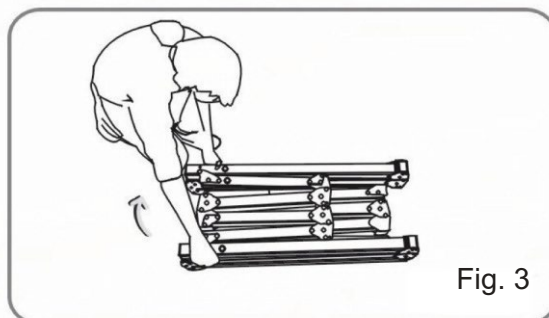

Fig. 3
1. Take the frame out of the box and place it on a flat surface, Unfold the longer sections first, (Fig. 3 + 4)